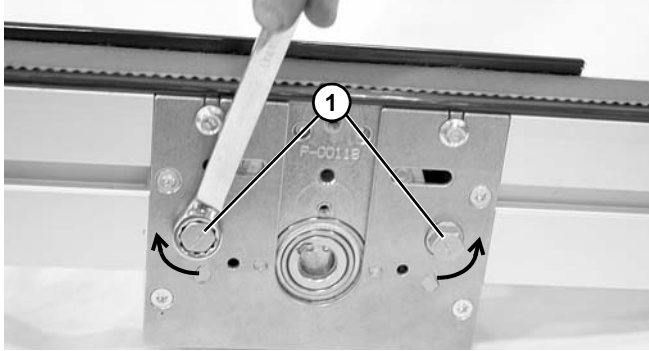

Figure 26
10. Rotate the tensioner cams (Figure 26, item 1) in the direction indicated to tension belt.